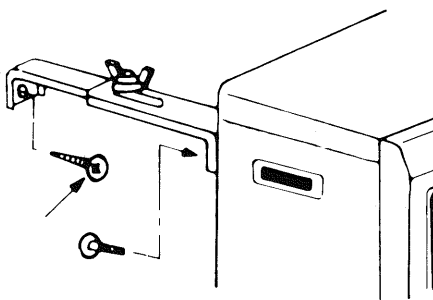

Fig. 15
11. After installation is completed, secure heater to the wall with the wall brackets provided with the heater. Make sure the heater is parallel to the wall (See Fig. 15).